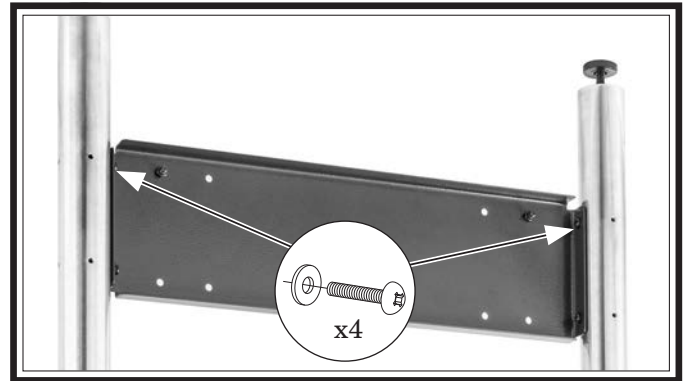

Figure 33. End plate attached.
4. Fasten shelf end plate to legs with (4) M6-1 x 12 Phillips head screws and (4) 6mm flat washers as shown in **Figure 33**.